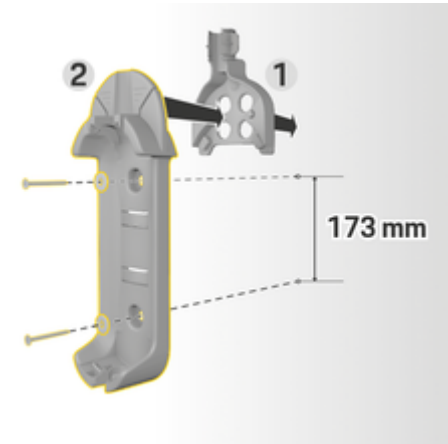

Fig. 13 Drilling dimensions
3. Press the basic wall mount 2 (Fig. 13) into the cable guide 1 (Fig. 13) from the front.